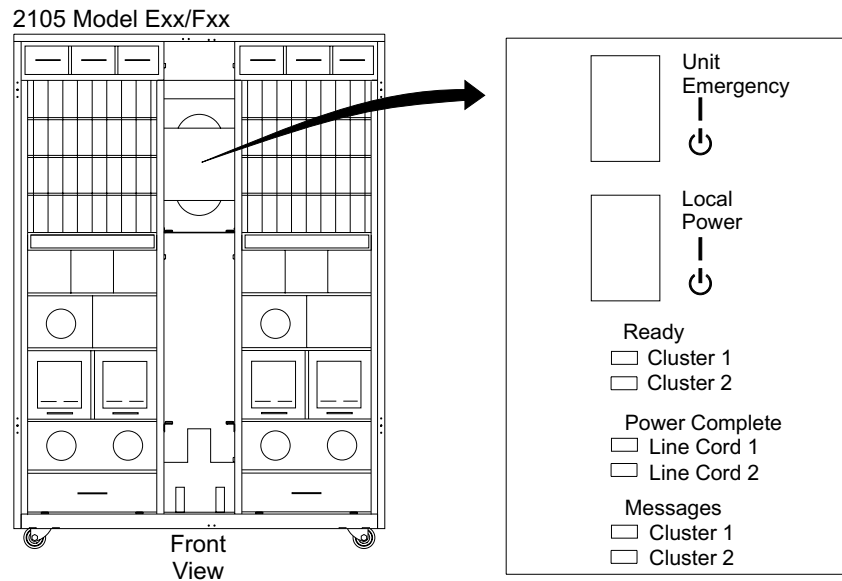

Figure 120. 2105 Model Exx/Fxx Operator Panel Locations (S008810m)
- e. Go to the operator panel on the front of the 2105 Model Exx/Fxx. Press the Local Power switch, in Figure 120, to On (up) for about two seconds.
- c. Go to the operator panel on the front of the 2105 Model Exx/Fxx. Press the Local Power switch, in Figure 120 on page 229, to On (up) for about two seconds.